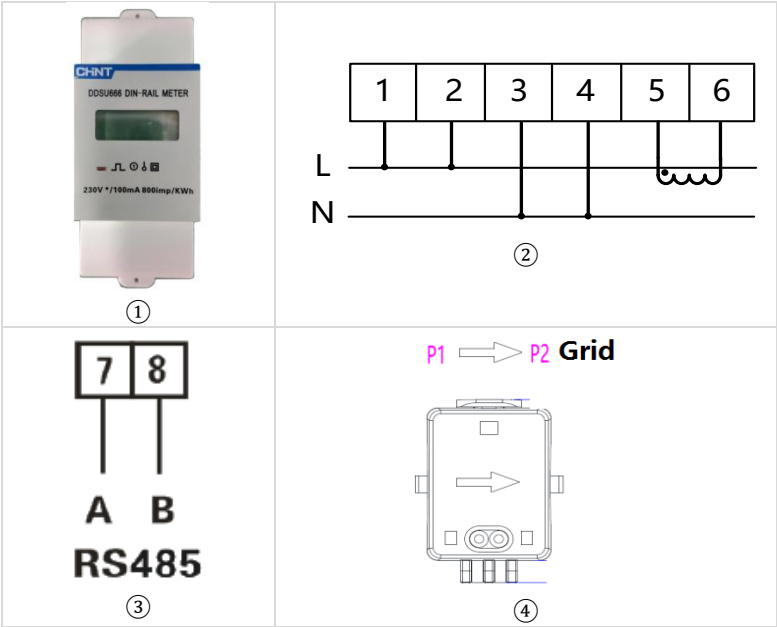

Figure 5-12(a) Meter (Instrument Transformer Meter)
The direction of the current transformer is shown in figure 5-12④.
The direct-connected meter is shown in the figure 5-12(b)①, Pin1 and Pin2 correspond to 24,25 respectively on the Meter, as shown in figure 5-12②. The connection mode is shown in figure 5-12②. The 1/3 and 2/4 on the electricity meter are connected to voltage signals L and N respectively.